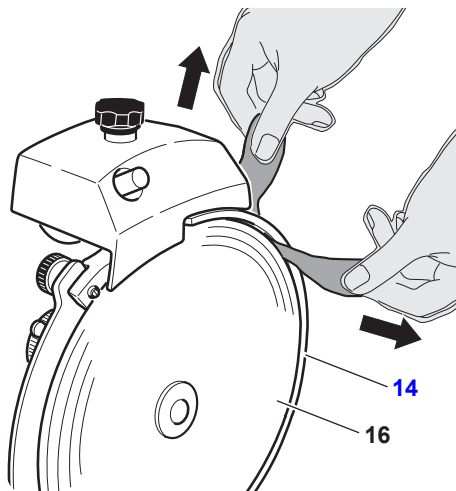

Figure 15-1
- Carefully insert the cloth between the knife (16) and knife ring guard (14). While holding the cloth between knife (16) and knife ring guard (14), work it along the inside surface of ring guard (14). Repeat this procedure as necessary (Figure 15-1).